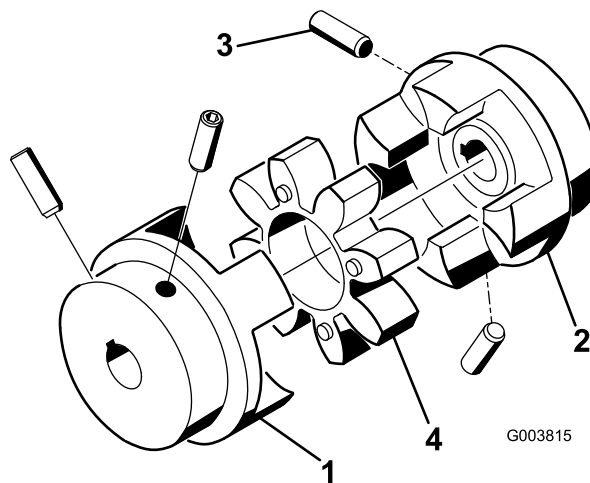

Figure 10
Note: Make sure that the coupler spider (Figure 10) is not in the coupler.
- Torque the setscrews securing the motor and fan shaft couplers (Figure 10) to 6.6 to 9.3 N-m (58 to 82 in-lb).